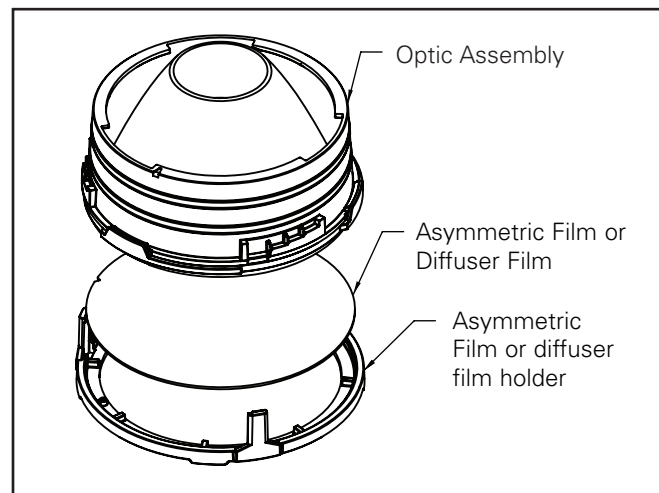

Figure 4
6. To install asymmetric film, follow the steps 1 to 5 with Asymmetry setup. (Figure 4)